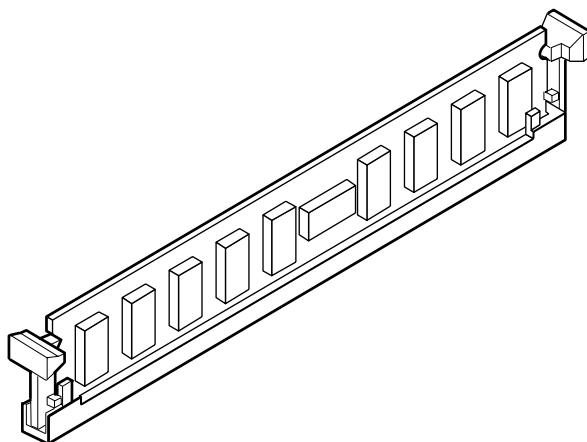

Figure 8-7. Properly Seated DIMM
5. Gently push the plastic ejector levers out and down to eject (Figure 8-7) the DIMM from its socket.